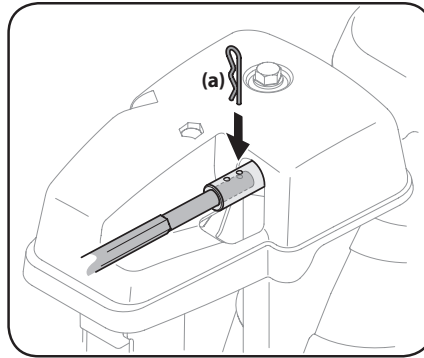

**Figure 2-26**
6. Insert chute control rod into pinion gear below joystick. Make sure to line up hole in rod with arrow on pinion gear. See Figure 2-26.